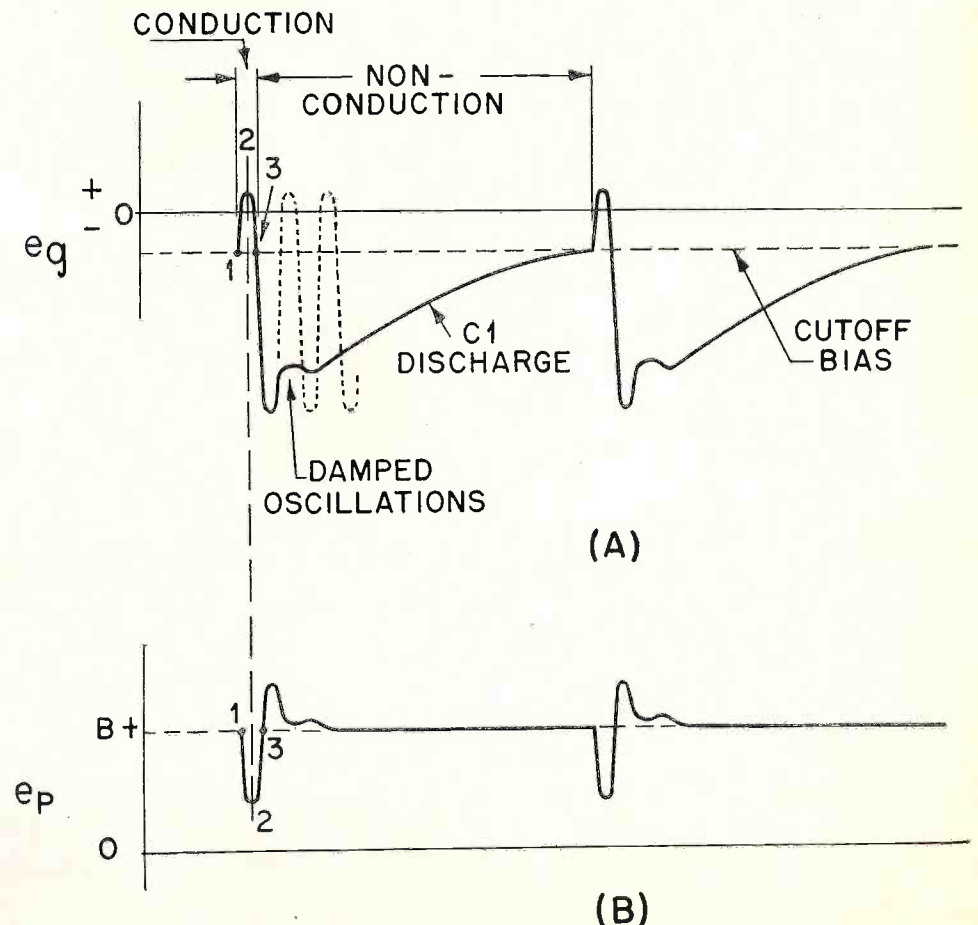

Fig. 2. Typical grid- and plate-voltage waveforms of the blocking oscillator.
time constant of the $R1-C1$ combination is much greater than the time required to complete one cycle of operation of the tuned-coil arrangement. Because of these factors, a high bias is developed and prevents the circuit from oscillating for any appreciable period of time. Typical waveforms of operation of the blocking oscillator are shown in Fig. 2. The operation of the blocking oscillator of Fig. 1 will be more readily understood by continuous reference to these waveforms.
Let us consider the circuit just as the supply voltage is turned on after the tubes have been warmed up. It should be remembered that this circuit is regenerative, the transformer being connected so that any change of current in the plate circuit will produce a change in the grid circuit which will aid the original change. The application of the supply voltage will cause current to flow in the plate circuit of the tube. Since no current was flowing previously, this current now flowing is considered as a current change. This change in current flows through the plate winding of the transformer and is coupled to the grid of the tube via the grid transformer winding. Since the circuit is regenerative, the voltage that is coupled to the grid must aid the original increase in plate current. Therefore, the polarity of this grid voltage is such as to make the grid positive with respect to ground and hence to cathode. This increase in grid potential causes an increase in the plate current, and the plate-current change is again coupled to the grid as a higher positive voltage, still increasing the plate current. This increase in grid voltage is shown at the beginning of waveform (A) of Fig. 2.
The circuit impedances and tube characteristics are such that a saturation point will be reached where the plate current, and hence grid voltage, will increase no more. This is indicated at point 2 in Fig. 2. When this maximum point has been reached, the plate current starts to decrease. This means that a change in plate current once again occurs, but in a decreasing direction, and, since the circuit is regenerative, a decreasing voltage is transformer-coupled to the grid. This reduces the positive potential on the grid and also reduces the plate current. The further change (i.e. reduction in plate current) causes the grid voltage to likewise reduce still more. This over-all action continues until the grid is driven below its cutoff value.
Let us now refer back to the time when $C1$ starts discharging. In the ordinary tickler oscillator the choice of $R1$ is relatively small and the time constant of $R1-C1$ is of a small enough magnitude so that the charge on $C1$ can leak off fast enough to have the circuit continue to oscillate. In other words, the initial pulse between points 1 and 3 in Fig. 2 represents one half-cycle of oscillation in the normal tickler-coil oscillator circuit, with the frequency of oscillation being determined by the so-called tuned circuit of the system. The continuation of the oscillations is indicated in Fig. 2A by the sine waves drawn in dotted form.
The effective tuned circuit of the transformer is immediately set into oscillations by the first surge of plate current flowing through the transformer windings. The initial half-cycle of oscillation and the rise and decay of plate current occur very rapidly. When the grid voltage is reduced beyond its cutoff value, which is at the end of the first half-cycle of transformer oscillation, the tuned circuit which is already energized continues to oscillate. However, primarily due to the physical construction of the transformer, which normally has a low Q , and the fact that the tube becomes cut off and does not supply any more energy to the transformer, these oscillations are quickly damped out. This is indicated in the waveform drawings of Fig. 2. In some circuits, a resistor is shunted across the grid winding of the transformer to decrease the Q and further dampen oscillations. In most practical circuits, the oscillations are immediately damped out so that after the grid is driven beyond cutoff, as capacitor $C1$ discharges through $R1$, the tuned circuit no longer oscillates.
As $C1$ continues to discharge, the negative voltage on the grid decreases and does so in exponential fashion as seen at (A) in Fig. 2. Since $R1$ is a much higher resistance than the grid-to-cathode resistance of the tube when the grid is positive and conducting, a much longer time is required to discharge $C1$ than to charge it; hence the grid remains negative for a much longer period of time than it is positive. A time will be reached during the discharge of $C1$ when the negative voltage on the grid will be reduced to just above cutoff and plate current will start flowing once again. At the moment this happens, the original operation starts over again; the tuned circuit is forced into oscillations, the grid voltage starts increasing in the positive direction, and $C1$ once more begins to charge when the grid goes positive.
The curve at (B) in Fig. 2 is representative of the plate-voltage waveform and also the signal output. The output voltage is in the form of periodic pulses which are seen to be above and below the $B+$ reference axis. The formation of the pulses below the $B+$ axis is due to the increasing and decreasing plate-current flow as explained previously. The pulses above the $B+$ line are formed when the tube is already cut off and plate current no longer flows. These pulses are primarily due to the energy stored in the plate winding of the transformer and are considered as the beginning of the damped oscillations of the tuned circuit.
The frequency of the pulse repetition of the waveforms of Fig. 2 is primarily determined by the $R1-C1$ combination for a given system. Other factors, such as the tube used, characteristics of the transformer employed, and circuit voltages, also determine the frequency of operation of the free-running blocking oscillator, but the values of $R1$ and $C1$ are usually the variable ones.